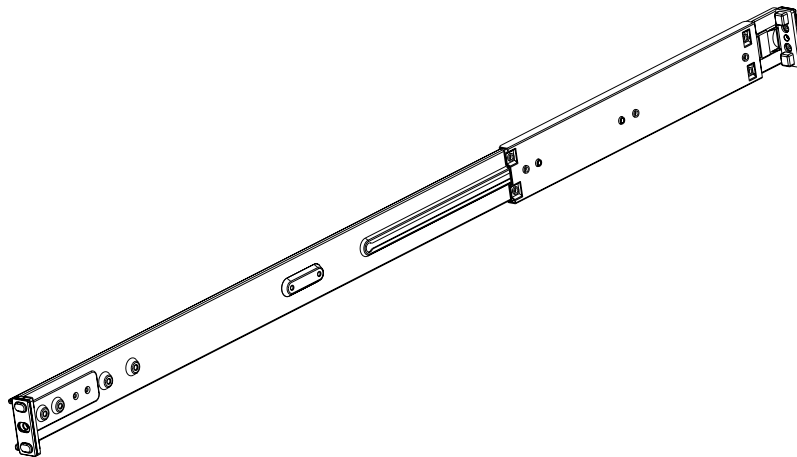

Figure 2-4 Outer Rail Assembly Example
3. The assembly should look similar to the example in Figure 2-4 on page 16.